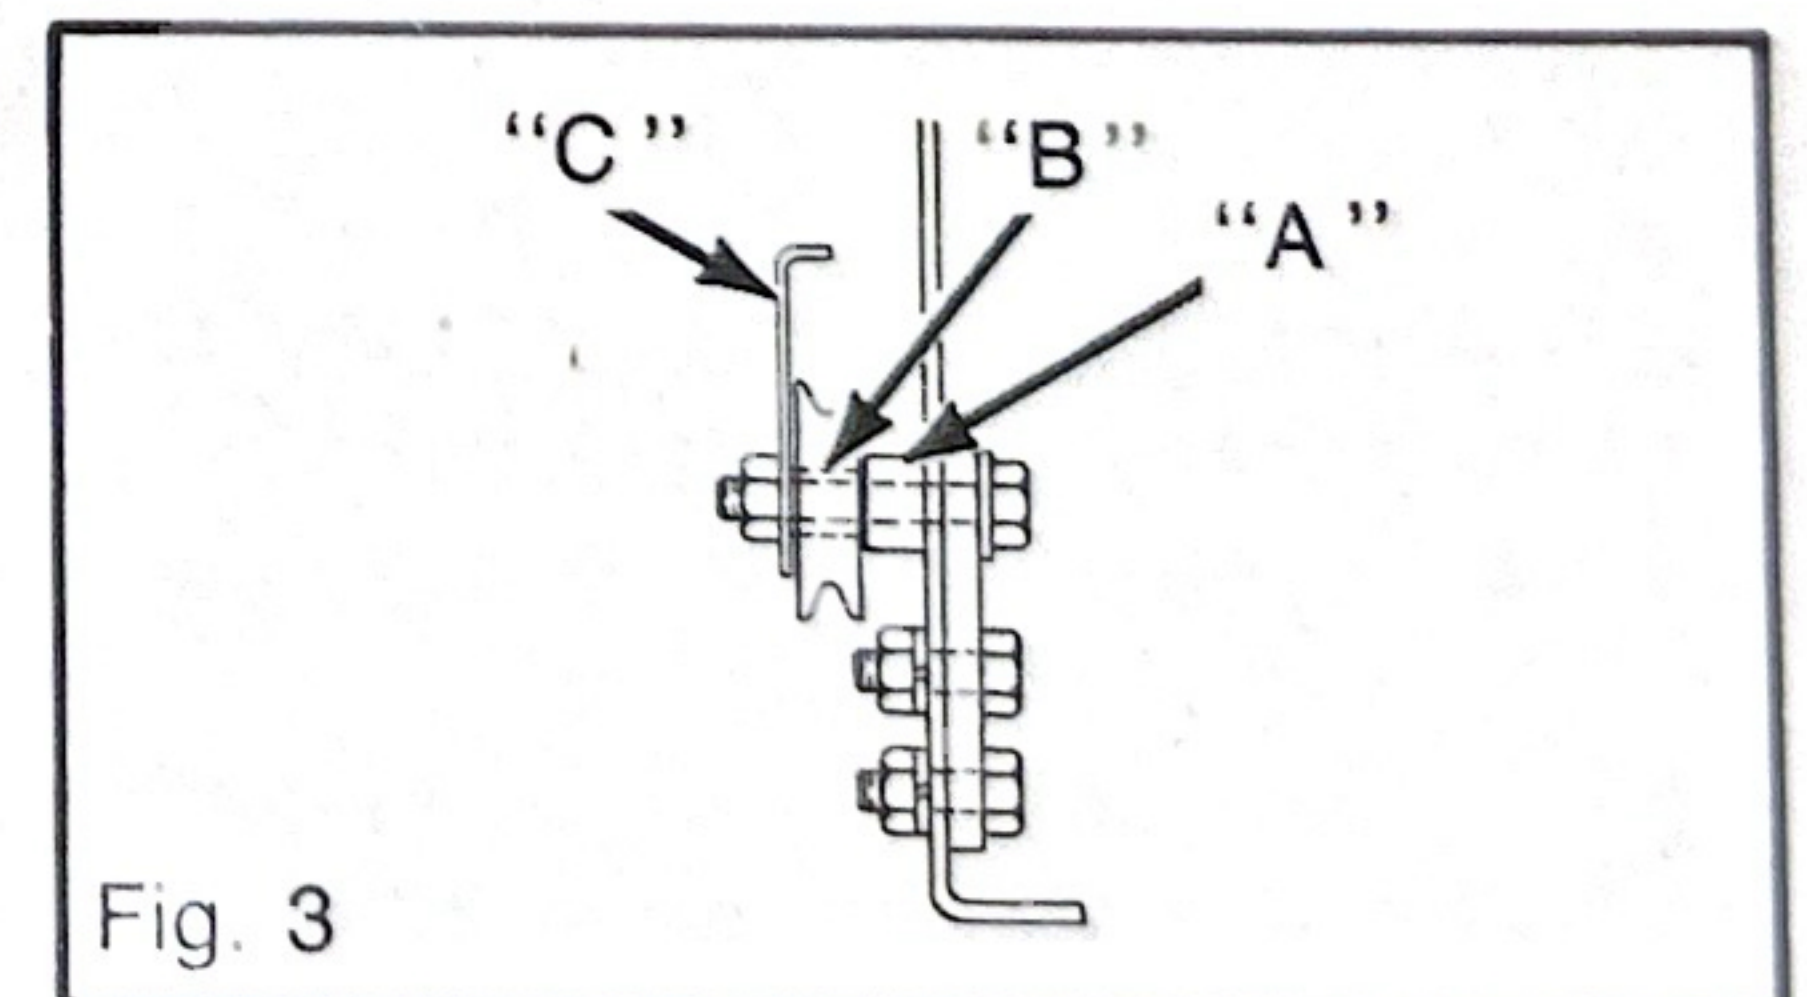

Fig. 3
B. Slide larger spacer "A", Figure 3, and small spacer "B" onto screw.